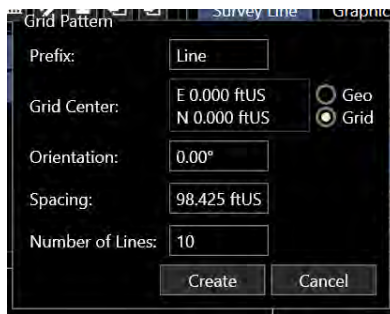

FIGURE 10-7 GRID PATTERN CONFIGURATION
3. The Grid Pattern popup is displayed. This is shown below in Figure 10-7